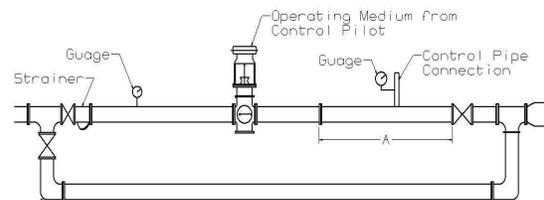

Figure 2 - Typical Control Valve Station for Control of Compressible Fluids at 25% or Less of Inlet Pressure
3. Make control pipe connection at least 18" to 24" from outlet stop valve, any elbow or other flow direction out changing fitting. (see Fig. 2)